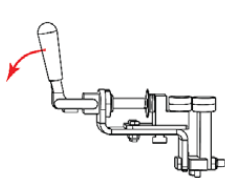

Figure 1.1
1. Open the blade clamp handle (figure 1.1) and flip the index arm up (figure 1.2).